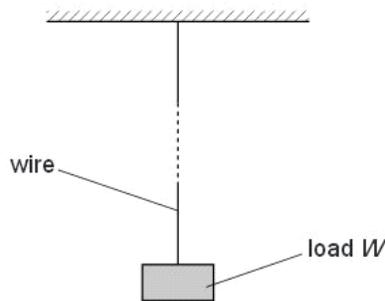

Fig. 4.1
- 4 A uniform wire has length L and area of cross-section A . The wire is fixed at one end so that it hangs vertically with a load attached to its free end, as shown in Fig. 4.1.